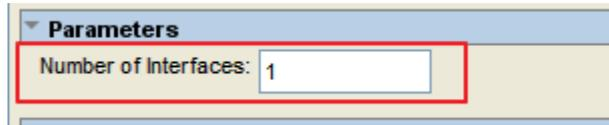

Figure 3-12 Modify Tri-State Conduit Pin Sharer
6. Modify **Number of interfaces** as shown in Figure 3-12.